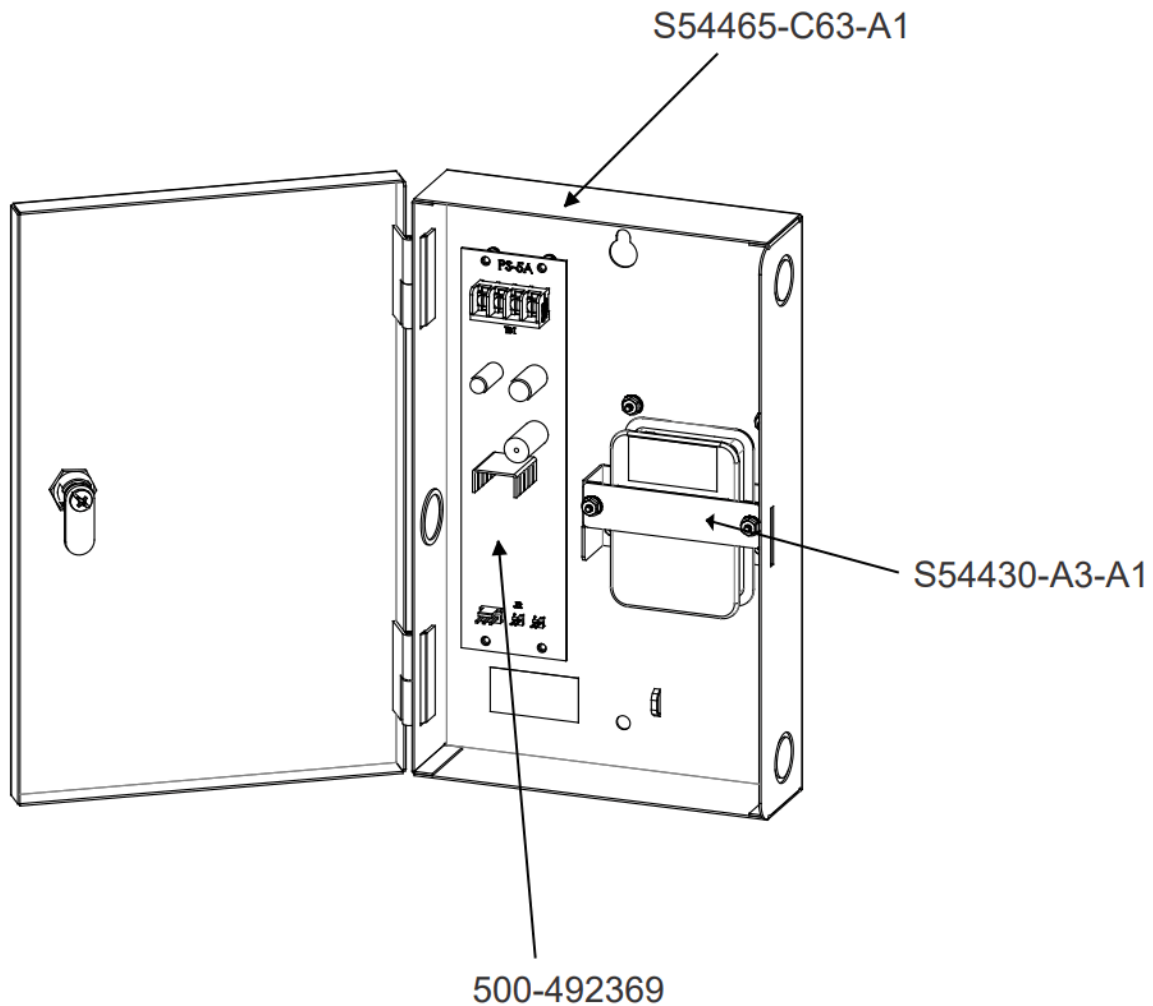

Figure 3 General View of SNU (without cables)
2. Mount the PS-5A power supply in the enclosure with the (4) screws provided. See Figure 3.